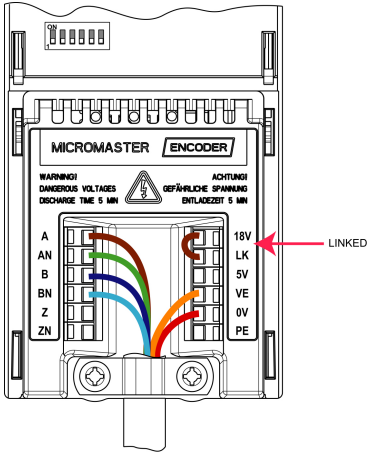

Figure 3-7 HTL Encoder Connections (18V DC)
1. An external power supply has to be provided (See Figure 3-7 on page 10) for the proper operation of the Encoder Module, if:
4. Connect the Channel A wire from the encoder to the 'A' terminal on the Encoder Module. See Figure 3-7 on page 10.